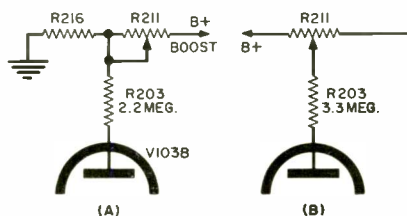

Fig. 1
If you have occasion to work on the vertical-oscillator stage in the "Q2" series of chassis, which includes the 14" 110-degree portables, don't get thrown off by a production change. If the set seems to be mis-wired, check against the schematics in Fig. 1. Current schematics for the receivers show the circuit as at (A), which is correct for early production. In later chassis,